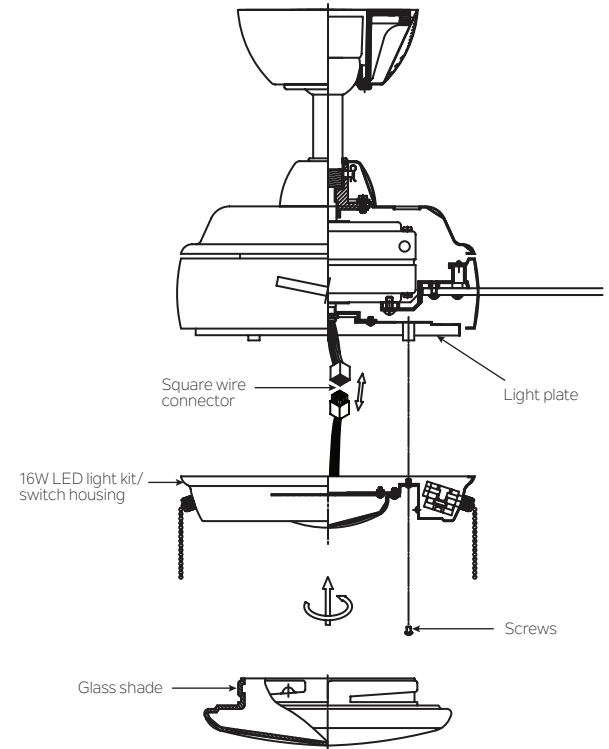

Fig. 16
**Step 1.** Loosen the three mounting screws on the inside of the 16W LED light kit/switch housing. (Fig.16)
**Step 3.** Tuck the connections neatly into the light plate. Place the key holes on the 16W LED light kit/switch housing over the 2 screws previously loosened from the light plate, turn the 16W LED light kit/switch housing until it locks in place at the narrow section of the key holes. Secure by tightening all three screws. (Fig.16)
**Step 4.** Raise the glass shade against the 16W LED light kit/switch housing and turn clockwise until snug. DO NOT OVERTIGHTEN. (Fig. 16)